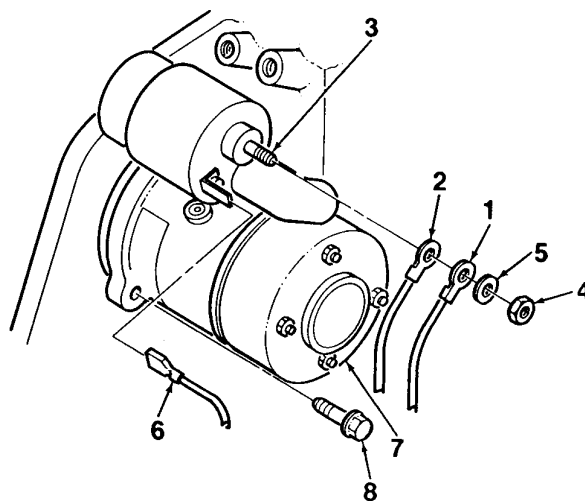

Figure 3-11. Starter Motor Removal
Wiring shown in Figure 3-11 is for a typical connection configuration. Connections will vary with application.
1. Tag and disconnect electrical wires (1, 2, Figure 3-11) from connection stud (3) by removing nut (4) and washer (5). Reinstall nut and washer to prevent loss.
2. Tag and disconnect electrical wire (6) from starter solenoid lug.
3. Remove starter motor (7) from cylinder block by removing two screws (8).
1. Install starter motor (7, Figure 3-11) into cylinder block. Secure using two screws (8).
2. Connect electrical wire (6) to start solenoid lug.
3. Connect electrical wires (1, 2) to connection stud (3) using nut (4) and washer (5).